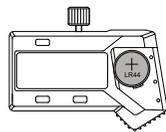

fig.2
- Put SR44 or LR44 battery into battery house, the positive side of battery (+) should face out (fig.2).